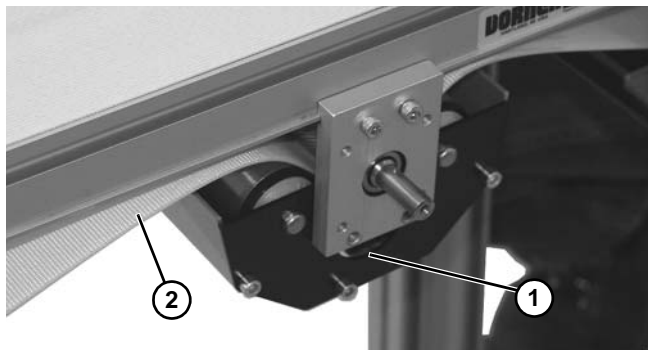

Figure 115
- Lower and remove mid drive module (**Figure 115, item 1**) from belt (**Figure 115, item 2**).